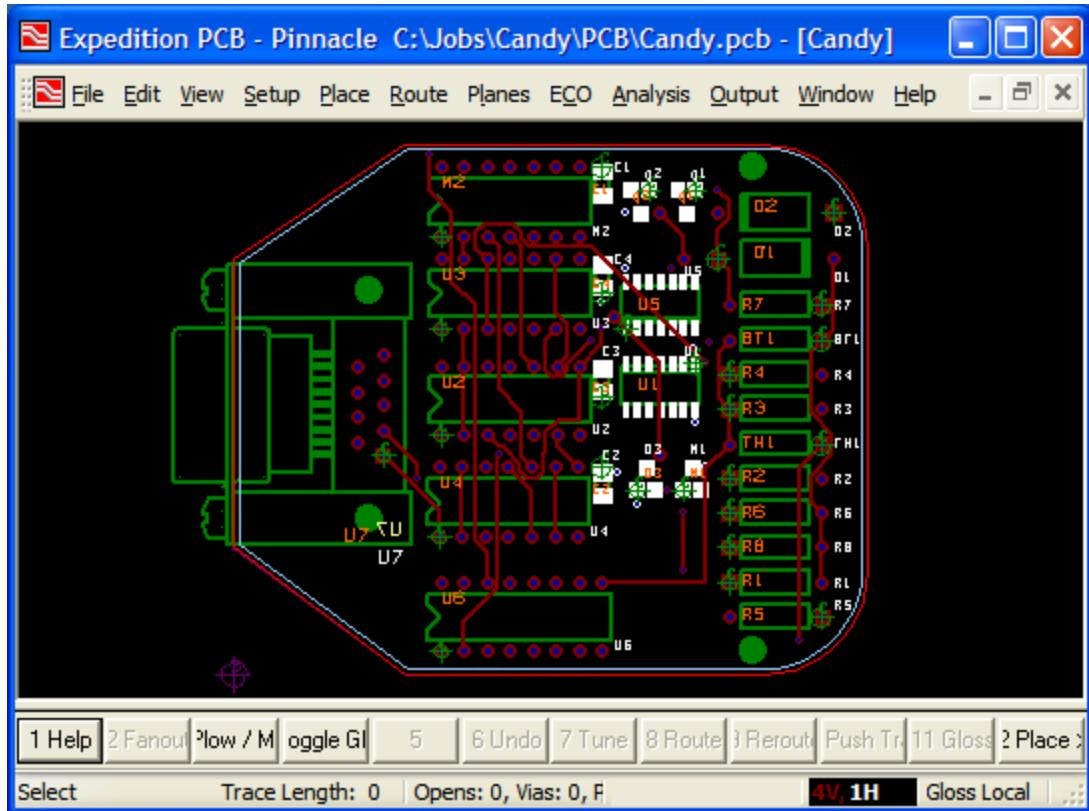

Figure 13-5. After executing the View > Display Layer 4 command.
- 7) Execute the new **View > Display Layer 4** menu button command (or use the new **<Ctrl>+4** accelerator) and observe the results as illustrated in Figure 13-5.